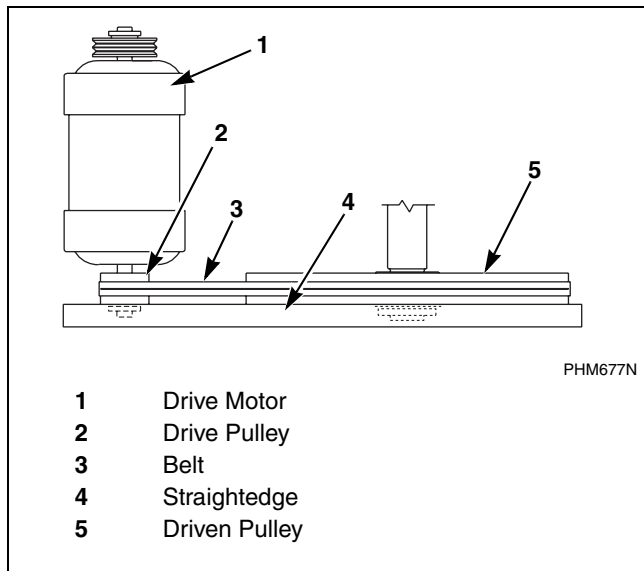

Figure 21
- c. Verify that V-belts are properly aligned by checking pulley alignment. Place a straightedge across both pulley faces. The straightedge should make contact with the pulleys in four places. See *Figure 21*.